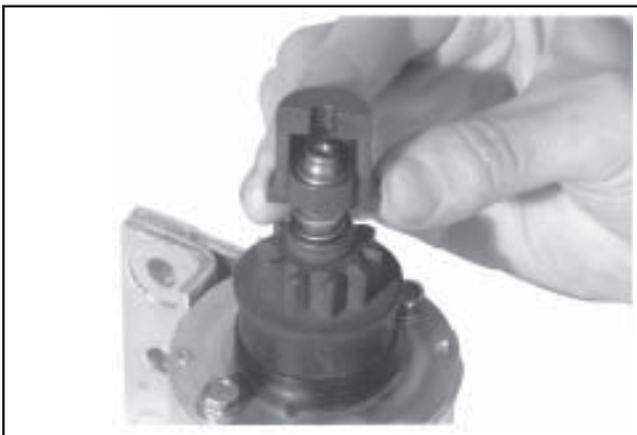

**Figure 8-37. Holding Tool and Turning Center Screw (Clockwise) to Remove Retaining Ring.**
5. Thread the center screw into the removal tool until you feel resistance. Use a wrench (1-1/8" or adjustable) to hold the base of the removal tool. Use another wrench or socket (1/2" or 13 mm) to turn the center screw clockwise (see Figure 8-37). The resistance against the center screw will tell you when the retaining ring has popped out of the groove in the armature shaft.